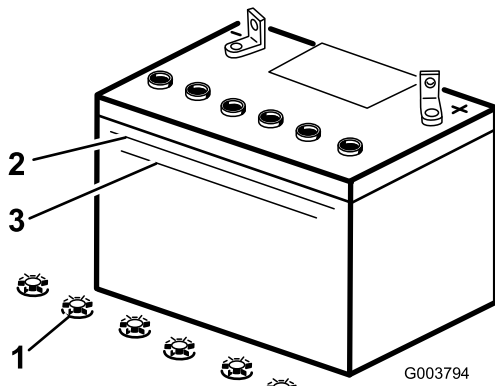

Figure 41
2. Look at the side of the battery. The electrolyte must be up to the Upper line (Figure 41). Do not allow the electrolyte to fall below the Lower line (Figure 41).
5. Remove the filler caps from the battery (Figure 41).
6. Slowly pour distilled water into each battery cell until the electrolyte level is up to the Upper line (Figure 41) on the battery case.
7. Wait 5 to 10 minutes after filling the battery cells. Add distilled water, if necessary, until the electrolyte level is up to the Upper line (Figure 41) on the battery case.